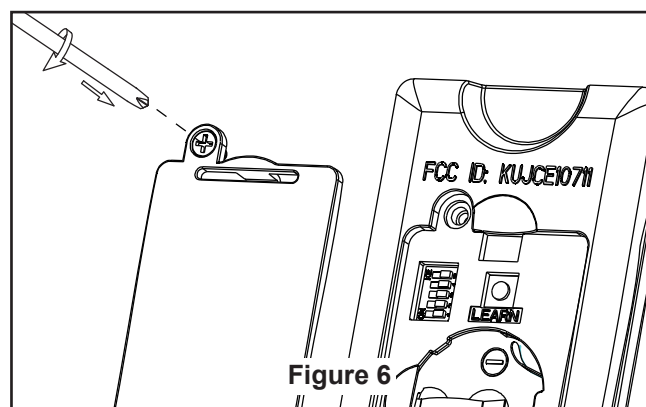

Figure 6
6. Assemble the LED assembly to the switch housing assembly using the removed screws in step 3 and secure all three screws. (Figure 6)
- ☐ 6. Replace battery cover on the remote control and secure with the previously removed screw. (Figure 6)
- ☐ 6. In the WiFi settings on your smart device, select the Fanimation_XXXXXX device and return to the fanSync WiFi app and press "CONTINUE". (Figure 6)